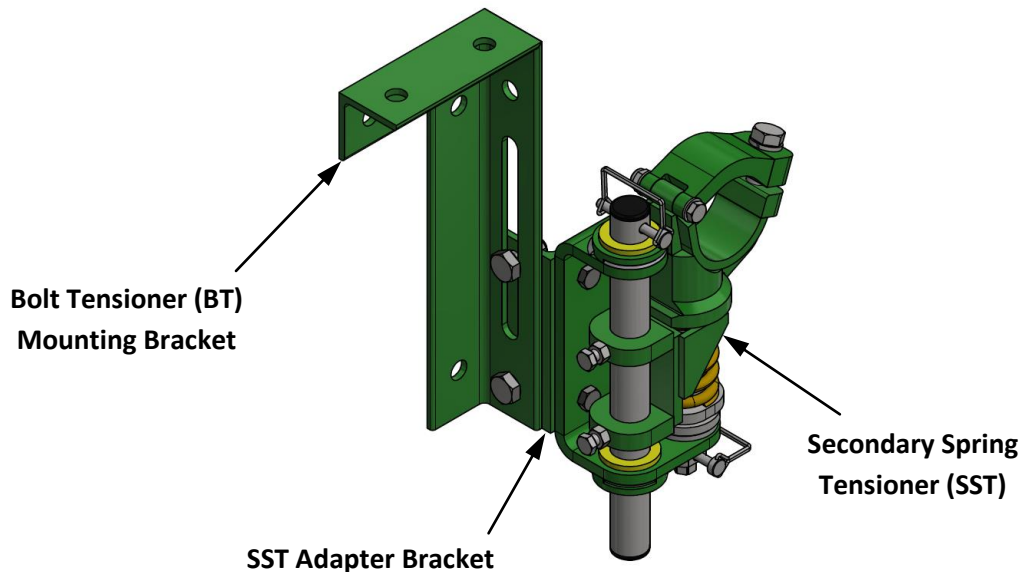

Figure 14 – SST Adaptor Bracket
In instances where a Bolt Tensioner (BT) side assembly is already installed, adaptor brackets can be used to mount Secondary Spring Tensioner (SST) mounting brackets (shown in Figure 14) or Inverted Secondary Spring Tensioner (SST-I) mounting brackets. Note: a longer pole may be needed to allow this option.